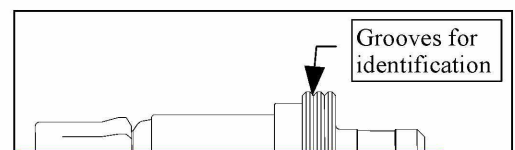

Fig. 21 - Sleeve holder
- The sleeve holder for Super 300 Type Pillar Fitting P Series has dual grooves on its flange (see Fig.21).